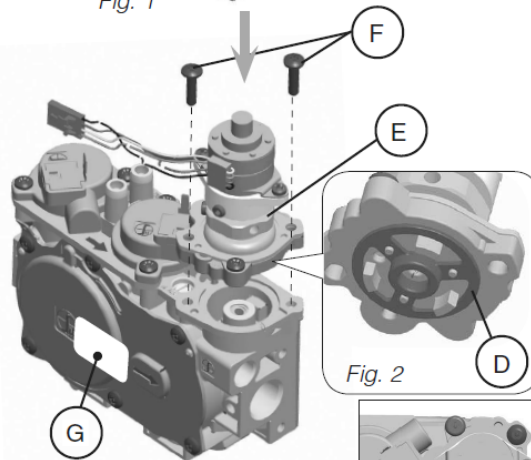
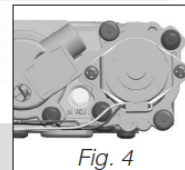

Fig. 3
Fig. 4
- 4 Install the new STEPPER MOTOR pressure regulator assembly, as shown in Fig. 3 and Fig. 4. Use the supplied screws (F), M4 x 0.7 threaded, length of thread  $L=(16\text{ mm} + 0 - 0.5\text{ mm})$ , steel material, resistance class 8.8 (see Fig. 5).